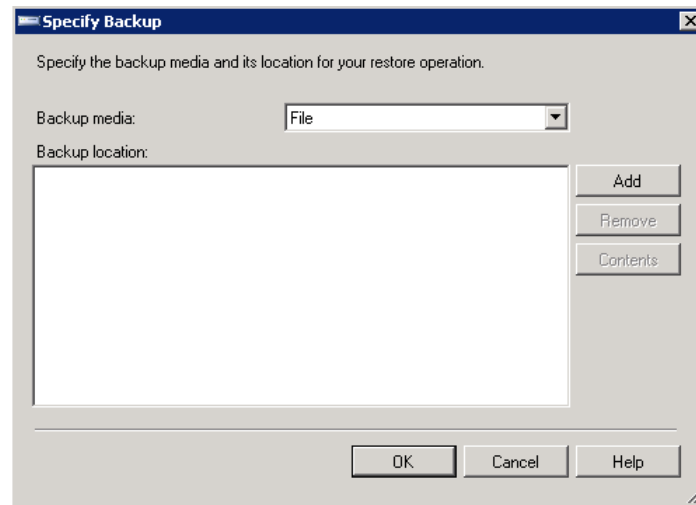

Figure 2-42 Specify Backup
5. Select the *From device* radio button, then click the ... button to open the *Specify Backup* dialog box (Figure 2-42).